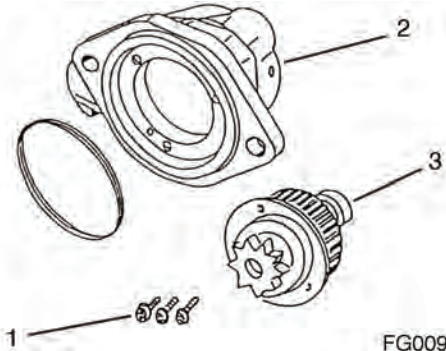

Figure 347
9. Remove the three M4 bolts (1, Figure 347) securing the bearing retainer assembly (2, Figure 347) to the gear housing. Remove the bearing retainer assembly from the gear housing.
10. Remove the pinion clutch assembly (3, Figure 347) from the bearing retainer assembly.